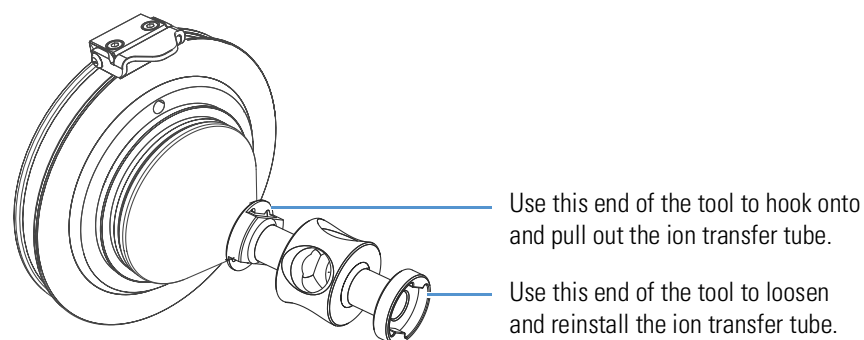

Figure 8-15. Removing the ion transfer tube (Orbitrap Exploris 480 MS)
- (Orbitrap Exploris 480 MS) Using the correct end of the custom removal tool (Figure 8-15), rotate the ion transfer tube only 1/4-turn counterclockwise. Then, use the other end of the tool to remove the tube from the ion source interface.